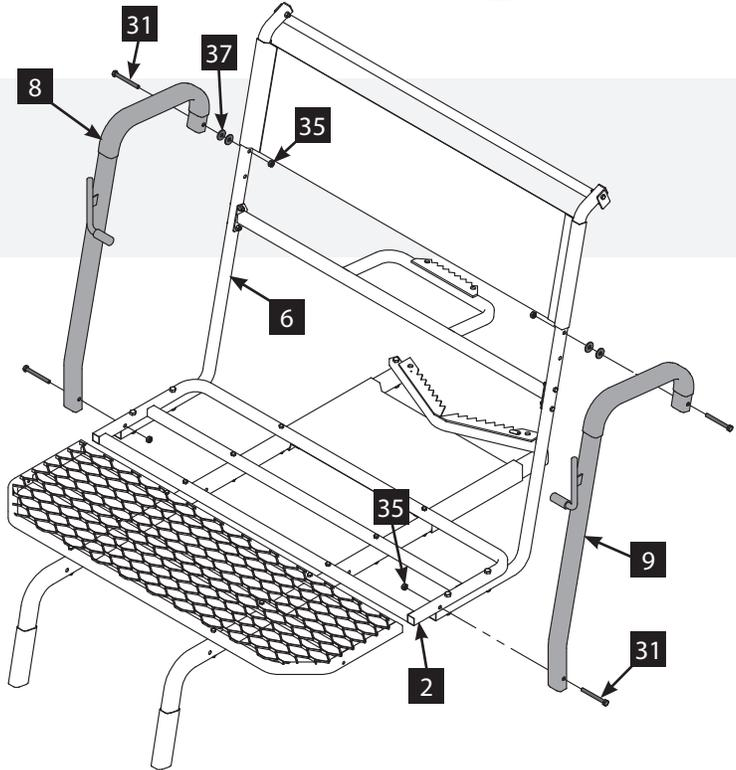

FIGURE 5
- Attach the top of the right armrest (8) and the top of the left armrest (9) to the rear seat supports (6) using two 5/16 x 18 x 3-1/4in bolts (31), 5/16in washers (37) and 5/16in locknuts (35). Make sure that the seat posts are pointing inwards. **SEE FIGURE 5.**
- Attach the bottom of the right armrest (8) and the bottom of the left armrest (9) to the rear platform (2) using two 5/16 x 18 x 3-1/4in bolts (31) and 5/16in locknuts (35). **SEE FIGURE 5.**